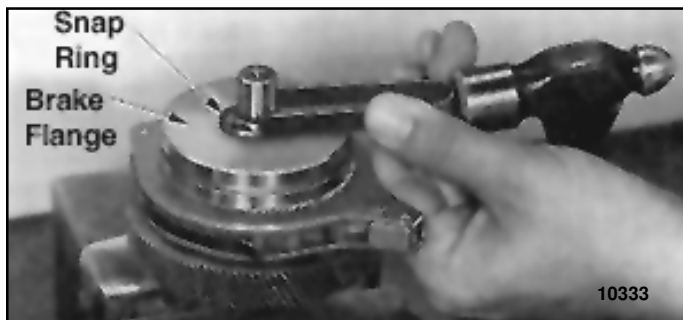

Figure 5-6. Remove Snap Ring From Load Brake Shaft
- (1) Place load brake assembly, flange up, in a vise equipped with brass or copper jaw plates to protect pinion gear teeth. Remove snap ring from end of load brake shaft (Figure 5-6).